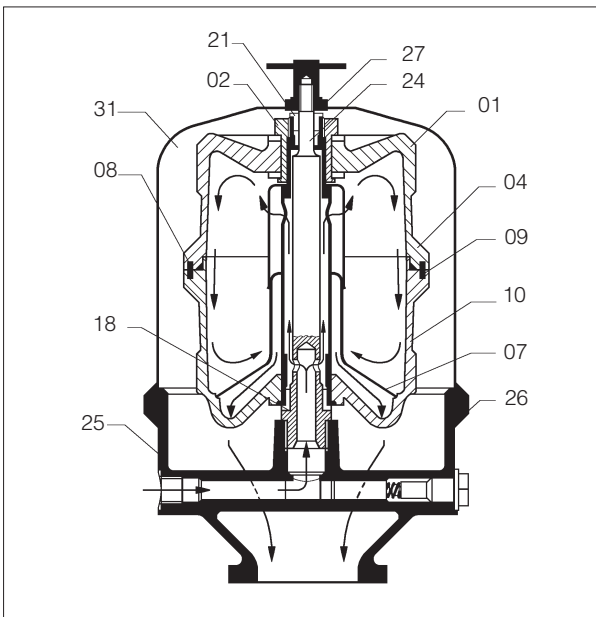

Fig. 1 Centrifugal Bypass Filter
- 2) Slacken cover clamp ring (26), see fig. 1. Unscrew cover nut (27) and lift off cover (31).